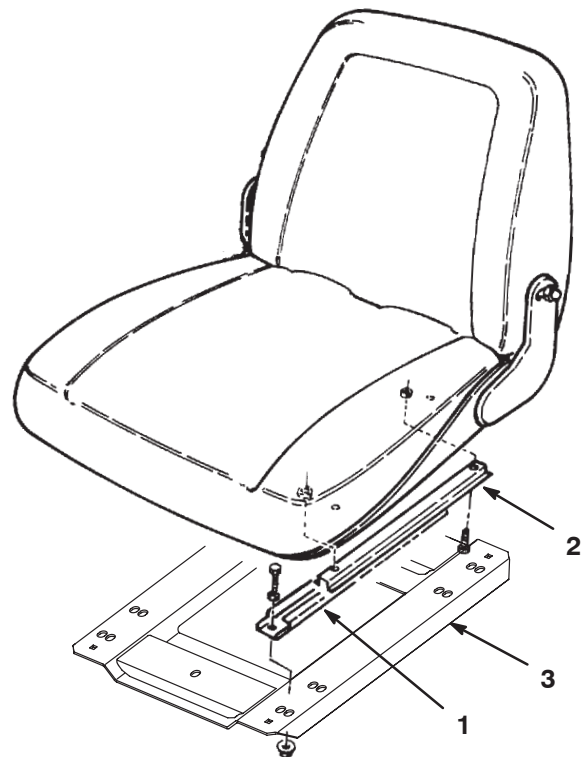

Figure 2
1. Remove the shipping ties securing the lower seat slides to the upper seat slides. Note the orientation of the lower slides for correct reinstallation (Fig. 2).
2. Insert the lower slides onto the upper slides (Fig. 2).
3. Loosely secure slides to seat plate with fasteners supplied with seat (Fig. 2).